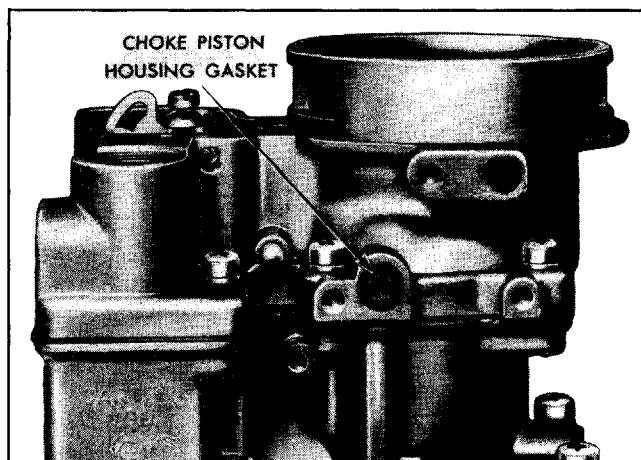

Fig. 6B-31 Choke Piston Housing Gasket Installed—Carter
15. Using a wire hook as shown in Fig. 6B-29, wind throttle return spring $\frac{1}{2}$ turn and catch on boss as shown in Fig. 6B-30.